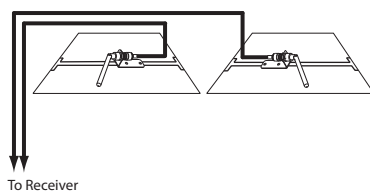

Fig. 9
- Ceiling Mount (Fig. 9, 10, 11).